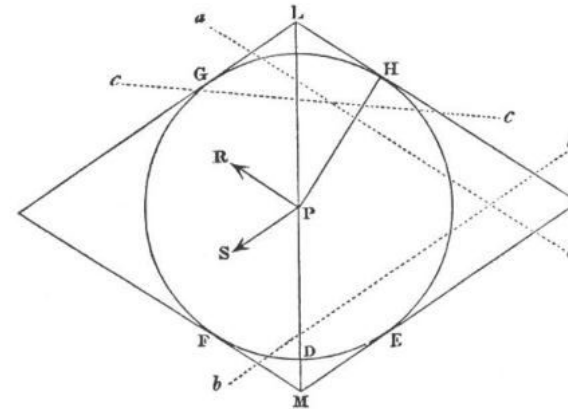

Fig. 1.
1. Let P (fig. 1) be the point where the traveller finds himself at fault, and let P D be a distance within which the path certainly lies; then the circle, E D F, somewhere cuts the path, and the traveller starting from P must first go to D, and then make the entire circuit, D E H F D, before he has exhausted his search. This distance of P D + D E H F D = P D + 6 P D nearly, = 7 P D altogether, which gives the length of road that the man must be prepared to travel over who can answer no other than the question A. Of course, P D may cut the path, but I am speaking of the *extreme* distance which the lost man may have to travel.